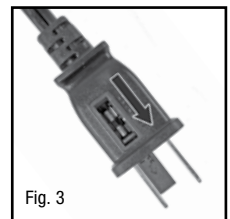

Fig. 3
3. You can gain access to the blown fuse by sliding open the door found on the side of the plug. Slide the door outward until the blown fuse is fully visible (Fig. 3).
- To move the fan, turn the fan OFF and pick it up by the concealed handle that is located on the outside rim of the fan (Fig. 3).